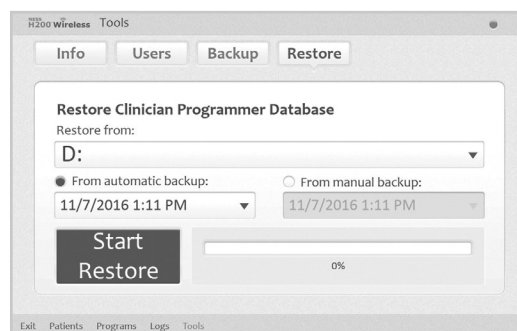

Figure 8-45: Restore Window
3. Open the H200 Wireless Software, and log in using an administrator's user name and password. Press the Tools menu and then the Restore tab. The Restore window will open. See Figure 8-45.